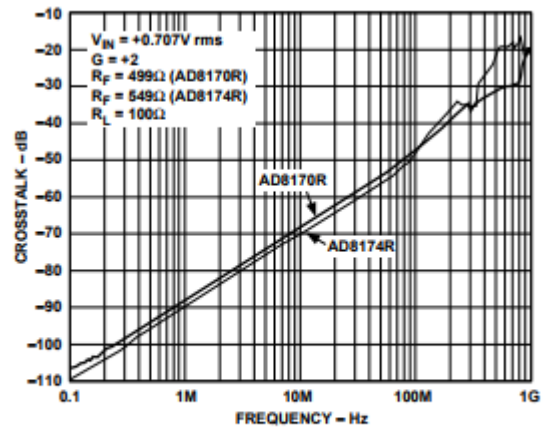

Figure 13. All-Hostile Crosstalk vs. Frequency
- 6Select input(s) that is (are) not being driven (i.e., if SELECT is Logic 1, activated input is IN1; in AD8174, if A0 = Logic 0, A1 = Logic 1, activated input is IN2). Drive all other inputs with  $V_{IN} = 0.707$  V rms, and monitor output at  $f = 5$  MHz and 30 MHz;  $R_L = 100$  Ω (see Figure 13).